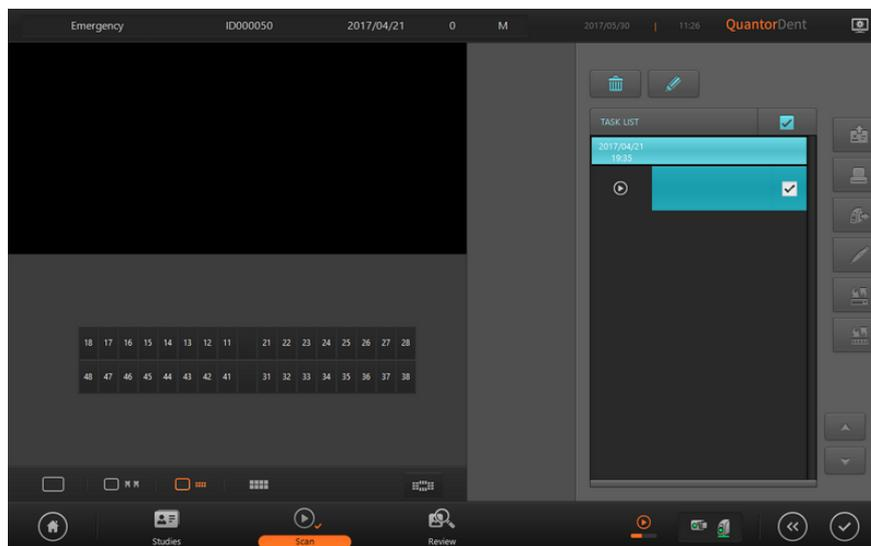

Figure 6.25 Scanning
9. The image scanning process is displayed on the right side of the navigation bar as Figure 6.25. The Scanner LCD screen also displays the scanning process.